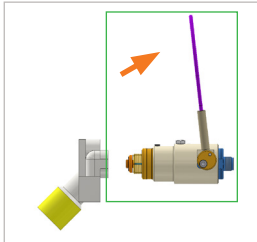

Figure 4
- ▶ Flip the actuation (Pos. 1) upwards (*Figure 4*).